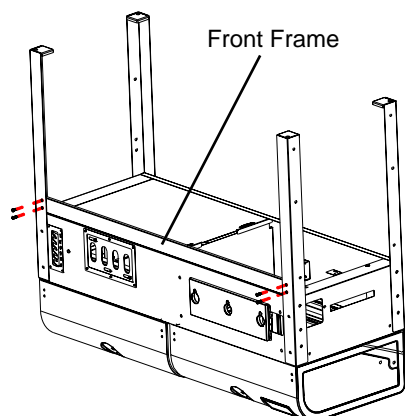

Fig. 3
Refer to Fig. 3 and attach the Front Frame to the Legs as shown using (4) M6x15 bolts.